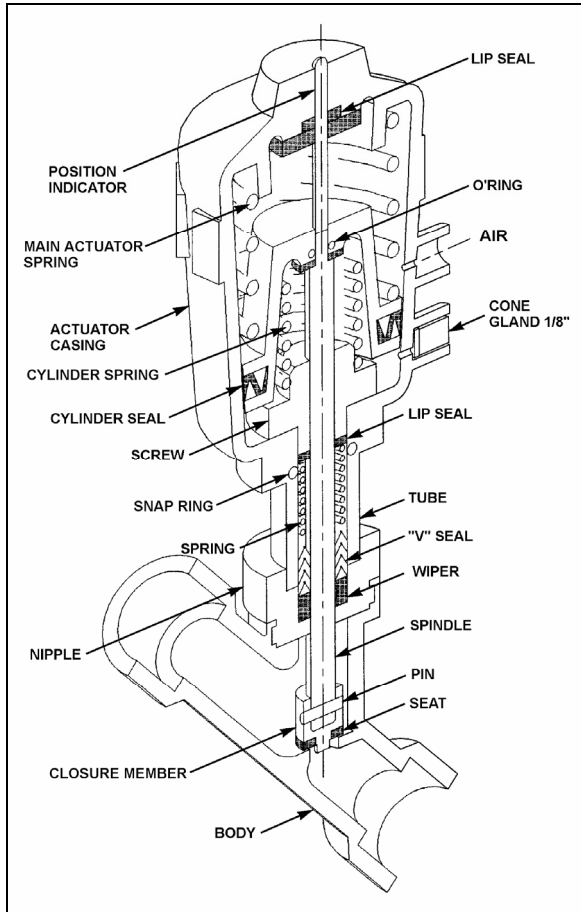

FIGURE 47: PNEUMATIC WATER VALVE 22241
- The water valve need not be removed from the line. Unscrew nipple, the actuator casing, tube, spindle and closure member can be removed (Fig. 47).
- Tighten the nipple in place in the body cavity as per figure 47. Fasten pilot solenoid valve to the pneumatic water valve. Reconnect air supply pressure and electrical current to the pilot solenoid valve.